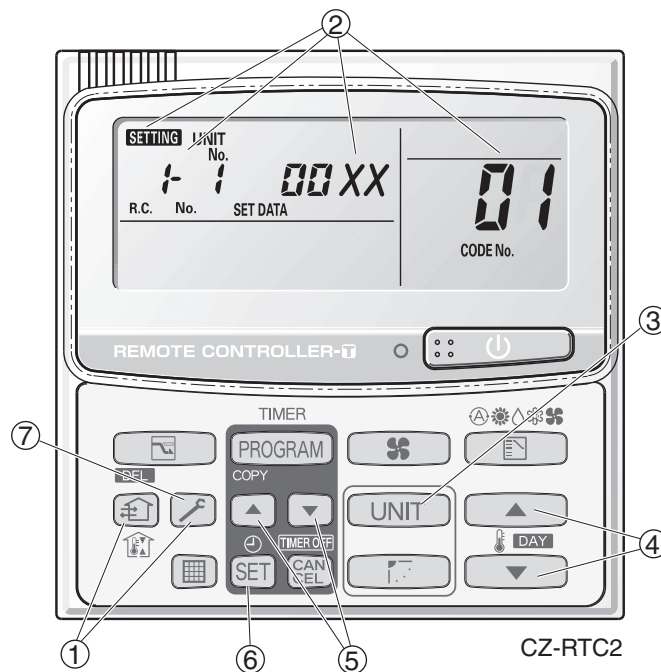

Fig. 2-1
- ① Press and hold the  and  buttons simultaneously for 4 seconds or longer.
- ② "SETTING," unit No. "1-1" (or "ALL" in the case of group control), item code "01," and settings data "00XX" are displayed blinking on the remote controller LCD display (Fig. 2-1). At this time, the indoor unit fan (or all indoor unit fans in the case of group control) begins operating.
- ③ If group control is in effect, press the  button and select the address (unit No.) of the indoor unit to set. At this time, the fan at the indoor unit begins operating.